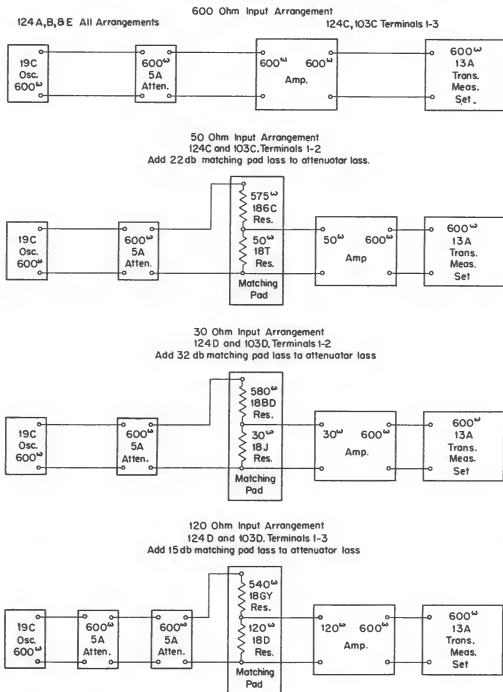

Fig. 1 - Patching Arrangements Used in Testing Amplifiers
impedance matching pad may be made up locally, using 18-type resistances, and connected as shown in Fig. 1.
Note: When an impedance matching pad is connected to the 103C, 124C, 103D or 124D amplifiers, the db loss of the pad, as shown in Fig. 1, must be added to the 5A attenuator loss.
- 4.36 With the 50-ohm input terminals 1-2 being used, an impedance matching pad is connected as shown in Fig. 1. With the amplifier adjusted for maximum gain, the gain as described in 4.26 should be 58 ± 2 db. Turning the gain control to position 5, the gain should then be 20 ± 4 db lower than the maximum previously measured.
4.38 With the 30-ohm input terminals 1-2 being used, an impedance matching pad is connected as shown in Fig. 1. Due to the high gain of the 124D amplifier and the possibility of damaging the 13A transmission measuring set,
when using the 120-ohm input terminals 1-3 of the amplifier, connect two 5A attenuators and a matching pad as shown in Fig. 1.
4.53 Use input terminals 1-2 to check that breathing noises below 1000 cycles are attenuated when the amplifier works out of a carbon transmitter. With the 50-ohm input terminals 1-2 being used, an impedance matching pad is connected as shown in Fig. 1.